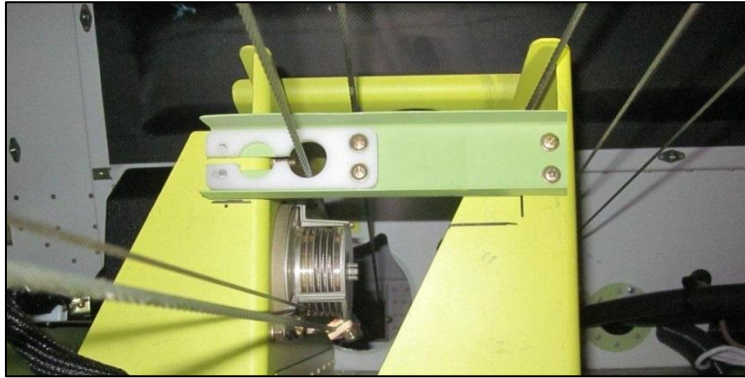

Figure 2
5. Pass the control cable through the slot on the cable guide / fairlead assembly and install it onto the two 047-11295-0003 brackets in the tail-cone such that the fairlead will provide enough clearance between the cable passing through and surrounding structure. Use two MS20426AD-4-6 rivets through the fairlead and cable guide on one side and two AN525-8R10 screws, two ea NAS1149FN832P washers and one ea MS21044N08 nyloc nut on the other. Refer to Figure 2.